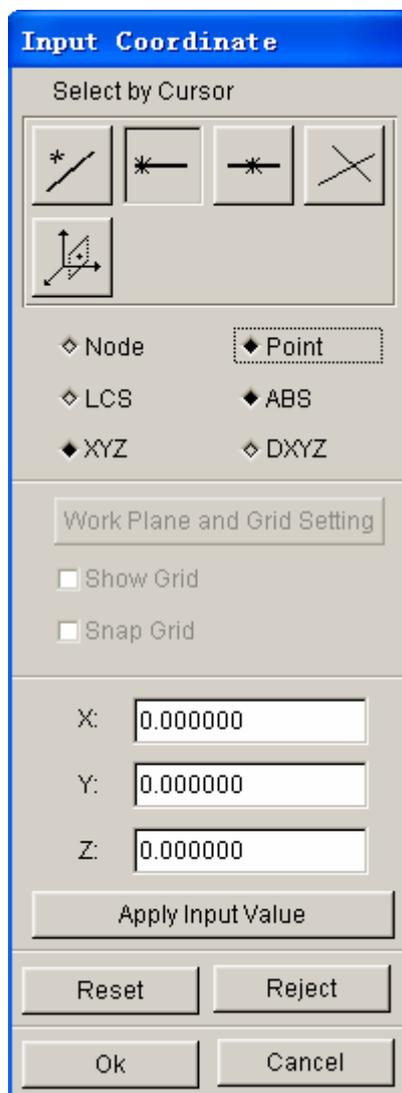

Figure 5.1.4 Input Coordinate dialog box
- Select NODE or POINT option from the INPUT COORDINATE dialog box as illustrated in Figure 5.1.4.